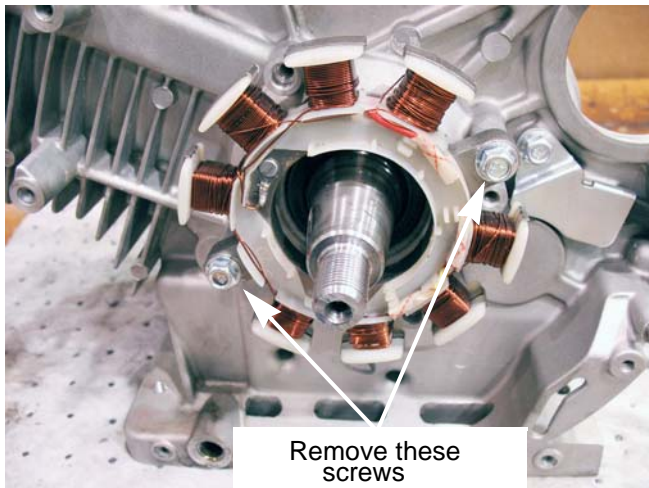

Figure 6.19
5. Remove the two screws that secure the stator with a 10mm wrench and lift the stator off of the engine. See Figure 6.19.